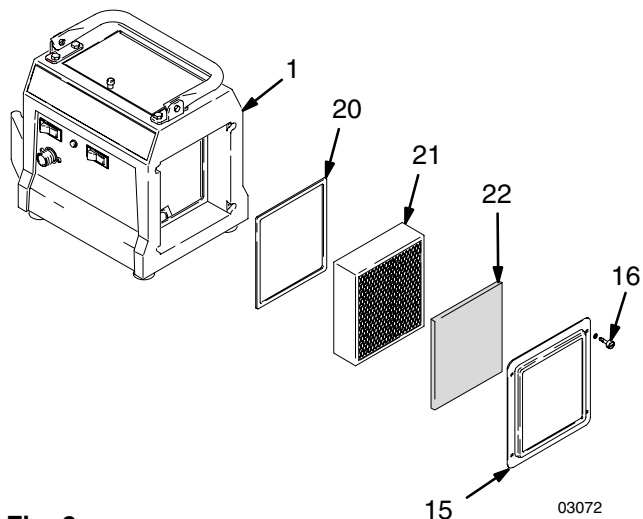

Fig. 9
2. Loosen four thumbscrews (16), remove filter retainer (15) and pre-filter (22). See Fig. 9.
3. Remove main filter (21) and clean by using one of the following three methods: